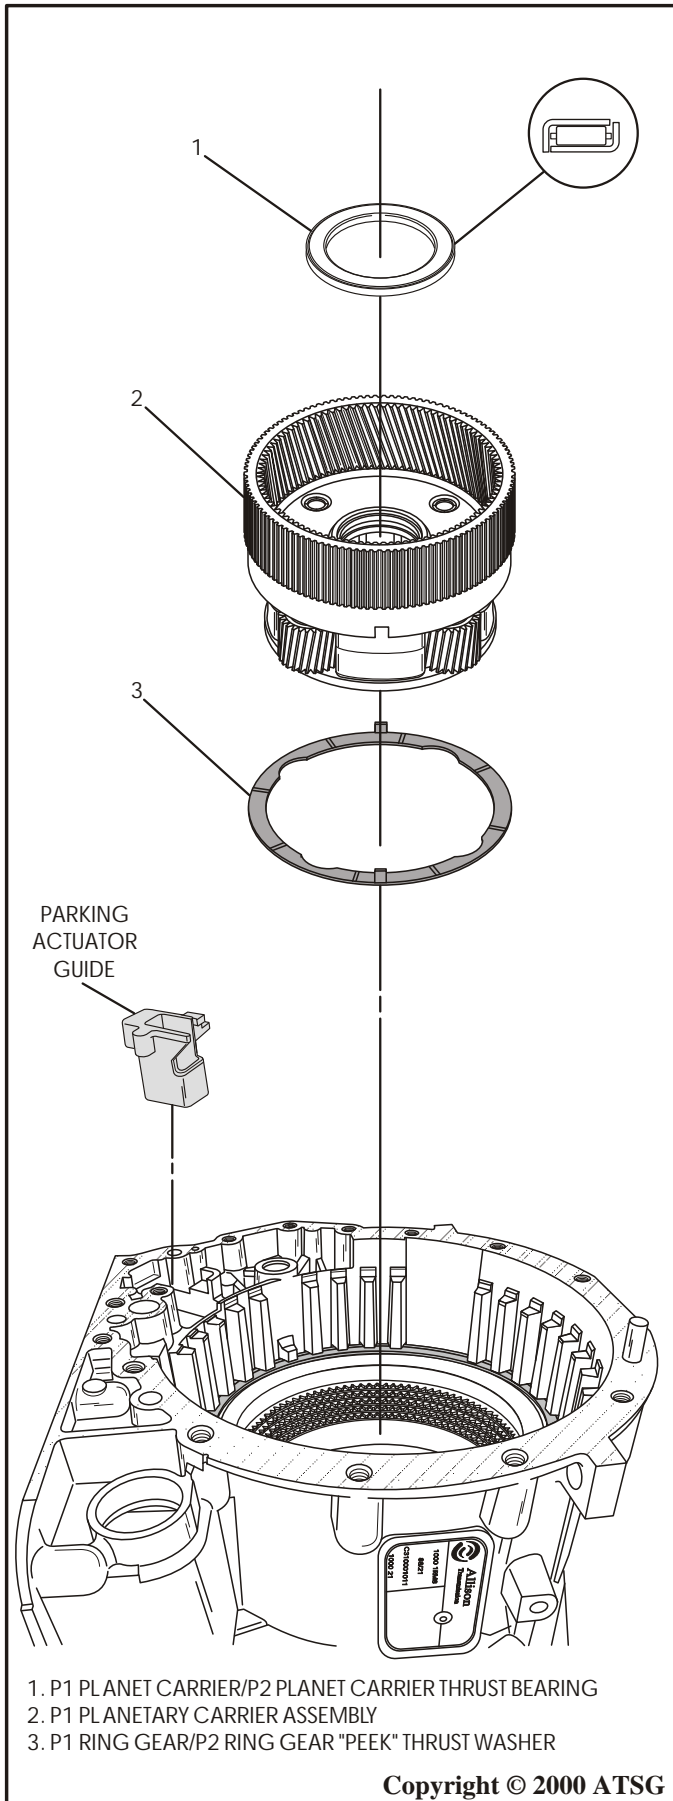

Figure 153
12. Install the parking rod actuator guide into the case, as shown in Figure 153, ensuring that the rollers on the parking actuator rod are engaged inside the guide.
13. Install the pre-assembled P1 planetary carrier assembly, with the thrust washer in place, into the P1 ring gear by rotating back and forth, to ensure that the ring gear teeth engage with all C4 lined plates (See Figure 153).
15. Install the P1 Planetary Carrier to P2 Planetary Carrier thrust bearing onto the P1 carrier in the direction shown in Figure 153.